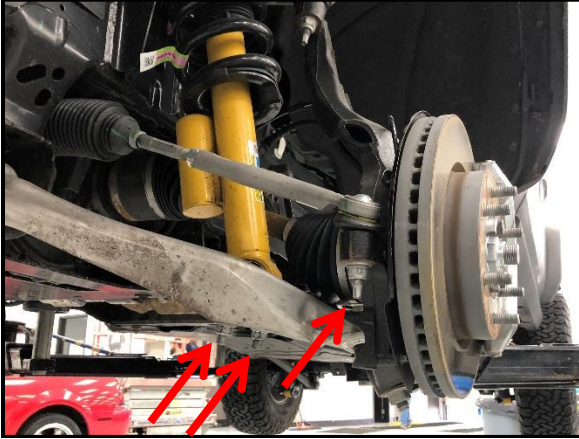

Figure 1
2. Remove tie rod nut using an 18mm socket (**Figure 1**).
5. Remove (x2) lower strut nuts using an 18mm socket (**Figure 1**).